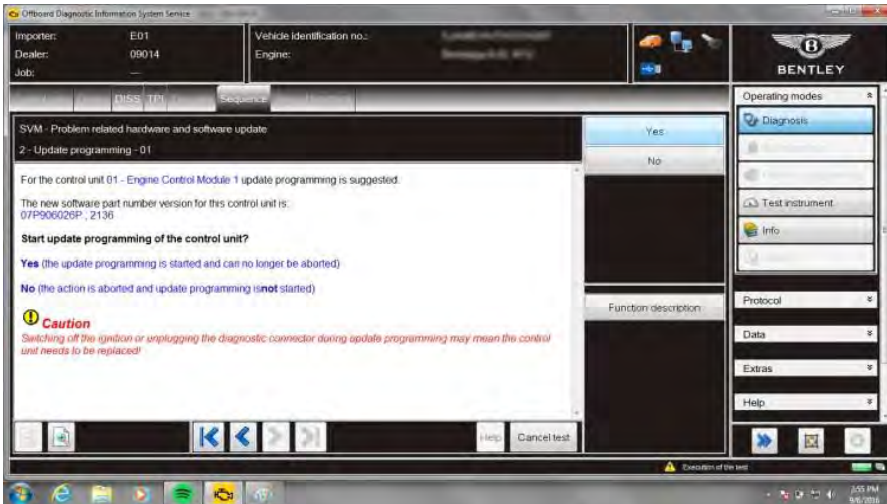

Figure 5
14. Select **Yes** at **Update programming 01** to update 01 – Engine control module (see Figure 5)